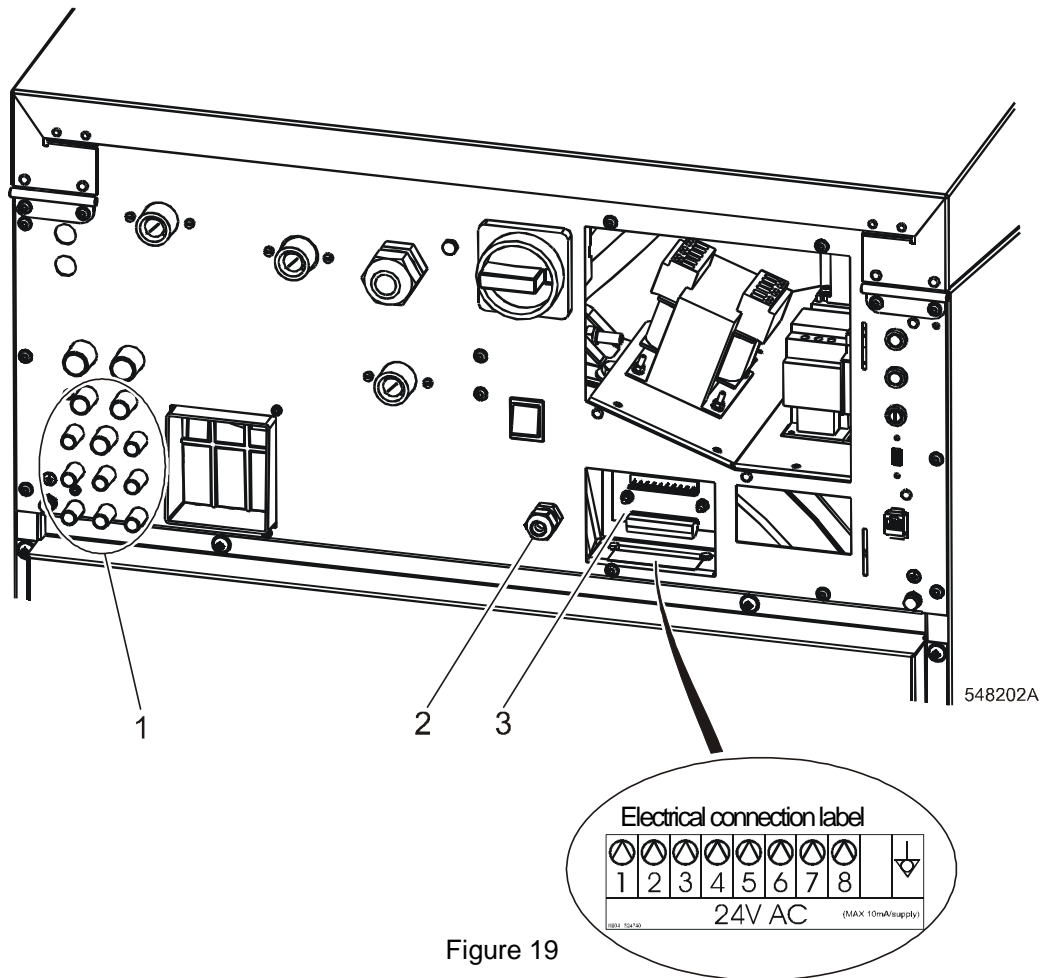

Figure 19
- The washer has provisions for connecting external dosing of liquid soaps. On the back side, a plastic hose connection part is present, Figure 19, pos.1, to connect the liquid soap hoses. Depending of the number of liquid soap pumps that will be used, drill holes (max. 8) of Ø 8 mm / 5/16" in the plastic hose connection part for each pump. We recommend using the left openings for connecting the pumps first and setting the flow rate of the pumps to 60 to 100 l / hour. On the plastic hose connection part is also a 3 nipples of Ø 12 mm / 1/2". Use this nipple ONLY for entering diluted soap. Drill with Ø 11.5 mm / 7/16". By default, these nipples are closed. Drill only the ones that will be used. Take care that the drill particles are carefully removed so that they can not clog up the hoses and openings.
- For electric connection of supply control signals is available on the back side of the machine the terminal box with LED signalization of activation of the respective pump, see Figure 19, pos.3. At the terminal box there is a label for electric connection. Detail connection of signals could be also found on the electric scheme of the machine. Signals for supply pumps control are 24V AC. Maximum current for control circuits of pumps must be limited to 10mA. Lead the cable for connection of pumps control signals through the plastic cable bushing, pos.2. After connection of conductors to the respective positions of the connector "P" (screw clamps), fix up the cable by tightening the cable bushing against disconnection and close the box with the cover. For details about liquid soap supply system programming, see Programming manual.